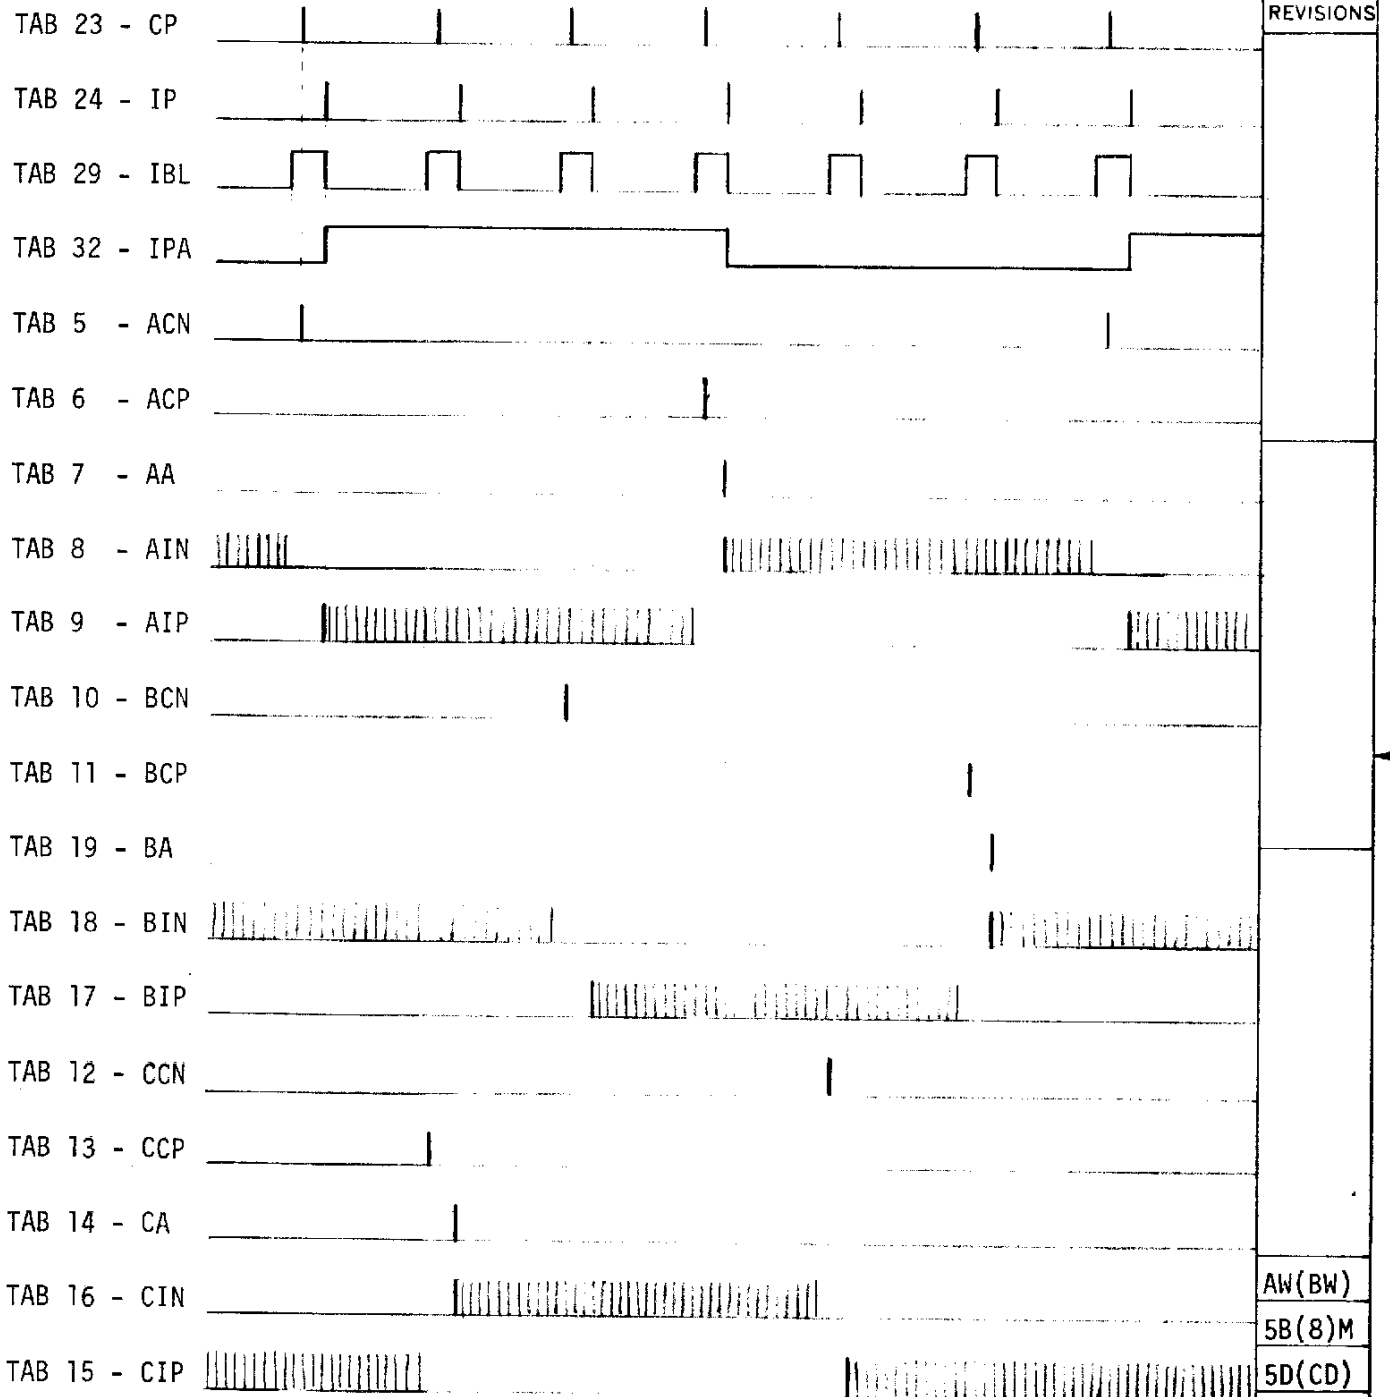

FIGURE 1
2.02 Three Phase Generation - Tab 20 is connected high to +12V. Tabs 28 & 31 are connected high to +20V and tabs 22 and 27 are connected low to common. A 6 times fundamental frequency pulse train, of the form shown in Figure 1, is connected to tab 29.
If tabs 23, 24 & 25 are all connected to a high frequency pulse train, the firing signal outputs at tabs 5 through 19 will inhibit waveshapes as shown in Figure 1. The main inverter firing outputs, tabs 8 & 9 for phase A, tabs 18 & 17 for phase B and tabs 16 & 15 for phase C will exhibit the three phase waveshapes shown in Figure 1. Each succeeding phase will follow the preceeding phase by 120 electrical degrees, with the positive and negative half cycles being 180° out of phase. The gaps between the pulse train portions of the positive and negative half cycles is equivalent to the width of the high portions of the IBL pulse train & represent the commutation time of the Inverter.
The pulse train portions of the waveshapes shown in Figure 1 indicate the periods of the three phase sequence during which each output tab is allowed to produce a firing signal (high state). This is illustrated by connecting the commutation pulse input tab 23, the initial pulse input tab 24 and the inverter pulse train tab 25 all to a high frequency pulse train, as was done in Section 2.02. Normally the inputs to tabs 23 and 24 are single pulses which can only appear within the periods illustrated by the pulse train portions. This means that the six times fundamental frequency commutation pulses at tab 23 and initial pulses at tab 24 are effectively steered to the proper commutation or auxiliary firing signal output, as shown by the heavy pulse marks within the pulse train areas for tabs 5, 6, 7, 10, 11, 19, 12, 13 & 14 in Figure 1. Normally the commutation pulse at tab 23 appears about 10 usec. after tab 29 goes high and the initial pulse at tab 24 appears at the same instant that tab 29 goes low. A 25% high, 75% low duty cycle pulse train is normally applied to input tab 25.
The firing outputs from tabs 8 & 9 for phase A, tabs 18 & 17 for phase B and tabs 16 & 15 for phase C should exhibit the three phase wave shapes shown in Figure 1. Each succeeding phase should follow the preceeding phase by 120 electrical degrees, or 2 periods of the tab 29 input pulse train, with the positive and negative half cycles being 180 electrical degrees out of phase. A full cycle in each phase covers 6 pulses of the tab 29 input pulse train. The gap between positive and negative half cycle "on" periods should be the same width as the tab 29 high pulses.
The firing outputs from tabs 5 & 6 for phase A, 10 & 11 for phase B and 12 & 13 for phase C should appear in the relationship with the inverter firing outputs as shown in Figure 1. Tab 5 pulse should follow the tab 8 "on" period, tab 6 pulse should follow the tab 9 "on" period, tab 10 should follow the tab 18 "on" period, tab 11 pulse should follow the tab 17 "on" period, tab 12 pulse should follow the tab 16 "on" period and tab 13 pulse should follow the tab 15 "on" period.
The firing outputs from tab 7 for phase A, tab 19 for phase B and tab 14 for phase C should appear in the relationship with the positive commutation firing outputs as shown in Figure 1. Tab 7 pulse should begin at the same time as the tab 8 pulse, tab 19 pulse should begin at the same time as the tab 18 pulse and tab 14 pulse should begin at the same time as tab 16 pulse.
Disconnect tab 24 from the pulse train input and connect it to common so that auxiliary output tabs 7, 19 & 14 will stay low. Reconnect tab 31 from common to +20 volts to start inverter. Inverter output tabs 8, 9, 18, 17, 16 & 15 should remain in the low state because they need an auxiliary output pulse to unlatch the stop lockout. When tab 24 is disconnected from common and reconnected to the pulse train, the inverter output tabs should return to their half cycle "on" states as shown in Figure 1. Tabs 8 & 9 should be released by a tab 7 pulse, tab 18 & 17 by a tab 19 pulse and tab 16 & 15 by a tab 14 pulse.
Reconnect tab 31 from common to +20V. Tabs 5, 6, 7, 10, 11, 19, 12, 13 & 14 should all immediately begin pulsing at their proper times as shown in Figure 1.
With all firing outputs operating as shown in Figure 1, disconnect tab 28 from +20V and connect to common. All firing outputs should go to the low state. When tab 28 is reconnected to +20V, all the firing outputs should return to their normal operating mode.
With all firing outputs operating as shown in Figure 1, disconnect tab 22 from common and connect to +13V. All firing outputs should immediately be locked out to the low state. Now disconnect tab 20 from +13V and connect to the 25 to 50 kilohertz pulse train. All inverter output tabs 8, 9, 18, 17, 16 & 15 should exhibit an inverted image of this pulse train continuously until tab 20 is disconnected from the pulse train and reconnected to +13 volts. The commutation and auxiliary firing outputs should not be affected by tab 20 and should remain off.
When tab 22 is reconnected from +13V to common, all firing outputs should return to their normal operating mode shown in Figure 1.
3.09 Reversing Logic With the card operating with an ABC phase sequence apply a logic high, +20V, to the REV input, tab 4. The phase sequence should remain ABC, but the reference clamp output, RFC, tab 26 should go low to less than 1 volt. Apply a logic high, +13V, to the minimum reference input, MR, tab 3. The phase sequence should reverse to ACB and the voltage at RFC, tab 26, should go high. With a reverse ACB phase sequence the Figure 1 signals on tabs 10, 11, 19, 18 & 17 are interchanged with those on tabs 12, 13, 14, 16 and 15 respectively. Disconnect +13V from tab 3. Repeat steps 3.05 through 3.08. With the card operating with a reverse ACB phase sequence disconnect the REV input, tab 4, from +20V. Again the phase sequence should remain ACB, but the RFC output, tab 26, should go low. Apply +13V to MR, tab 3. The phase sequence should return to ABC and RFC, tab 26, should go high.